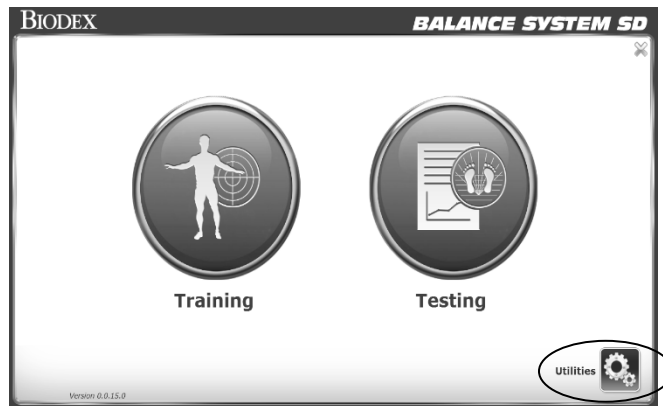

Figure 2.1. Home Screen .
1. Plug the power cord of the Balance System SD into an AC power supply. The Home screen is displayed (see Figure 2.1). The Balance System platform is active and in the locked position.